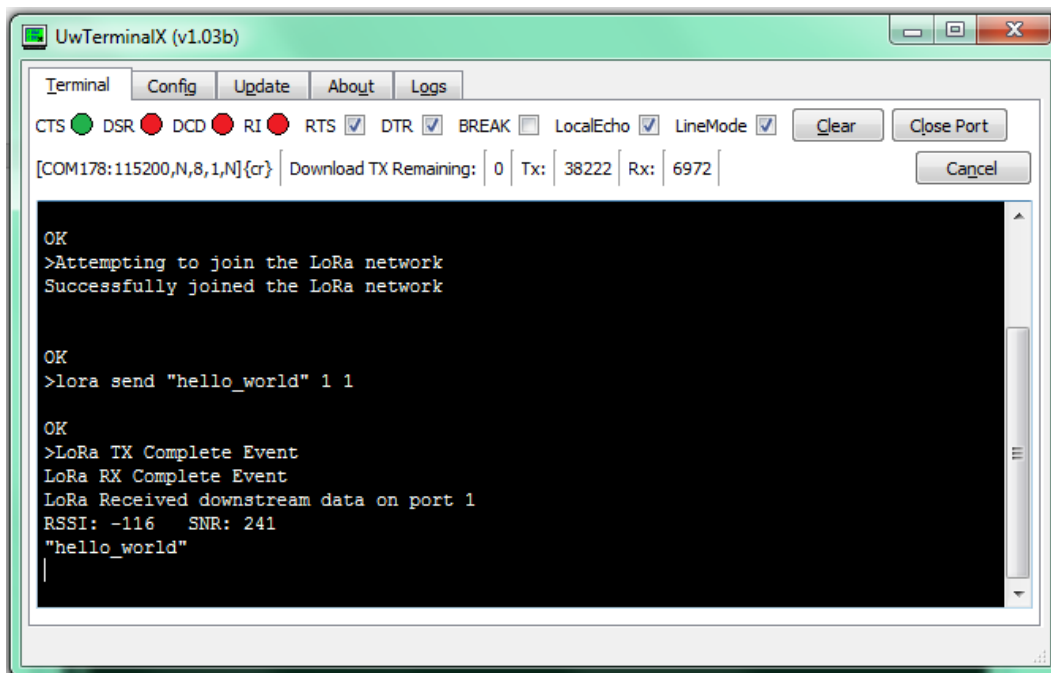

Figure 4: Sending "hello world" packet upstream to gateway
6. Once the RM1xx is connected to the network, type **lora send** and press enter. This sends a confirmed upstream packet on Port 1. The terminal reflects this as shown in the following image (Figure 4).